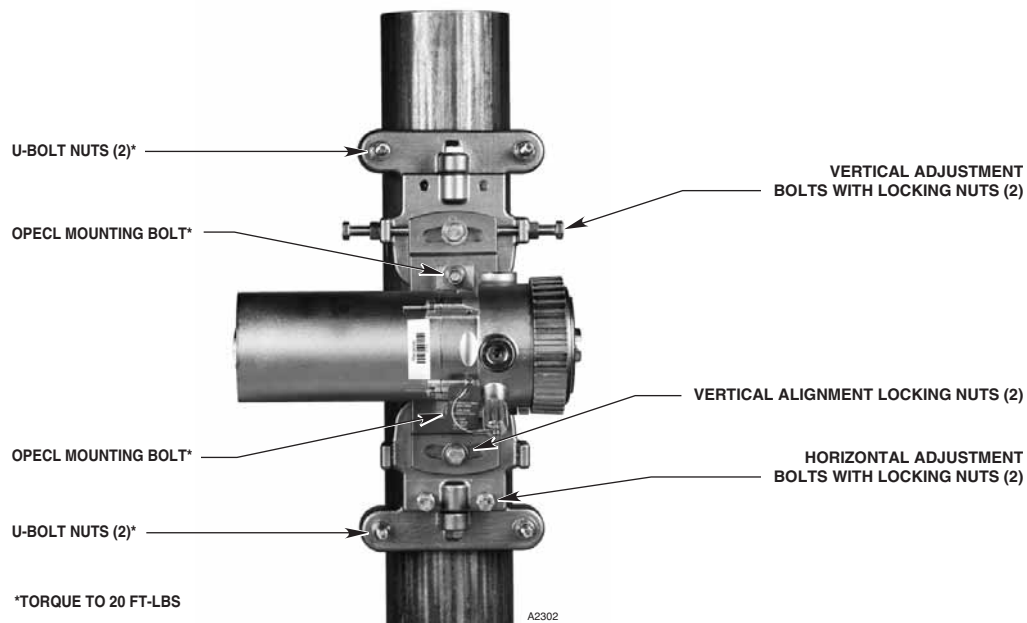

Figure 17—OPECL Mounting and Alignment Hardware
3. Loosen the locking nuts on the alignment adjuster bolts so that the bolts can be freely tightened or loosened for alignment purposes. Loosen, then hand-snug the two vertical alignment locking nuts. See Figure 17. At this point, the unit should be easily adjustable in the vertical and horizontal positions with little or no adjustment slop.